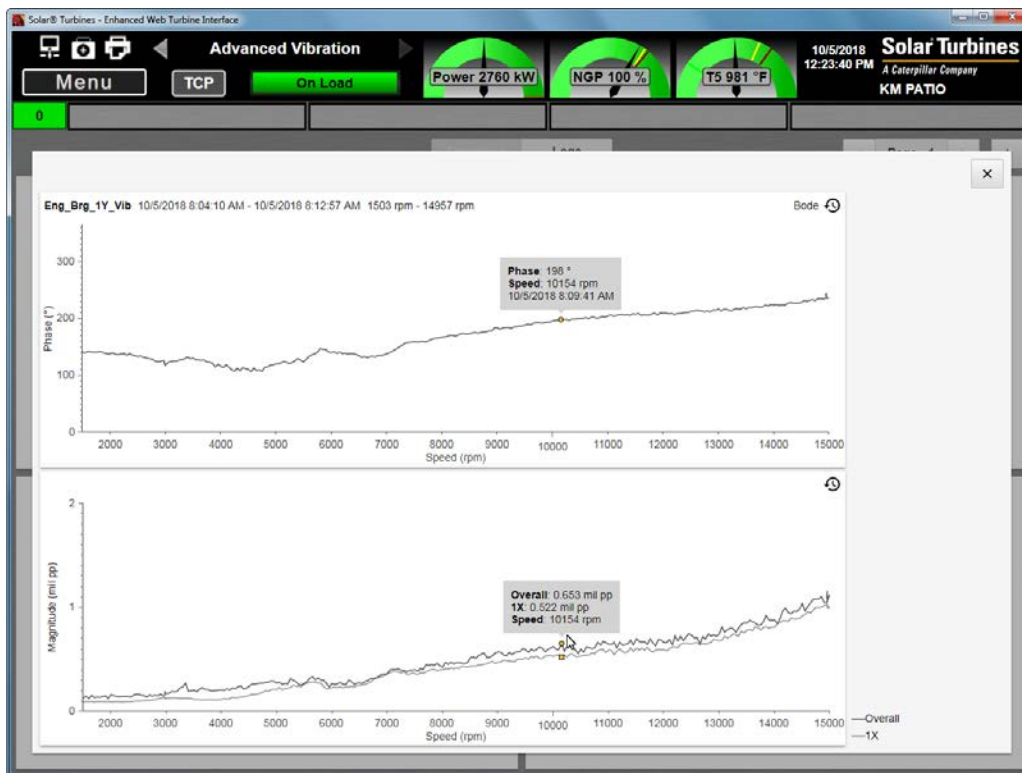

Figure 7. Bode Plot
1. The Bode plot (Figure 7) displays two separate plots of phase angle versus speed, and a combined plot of overall and 1x amplitude versus speed.